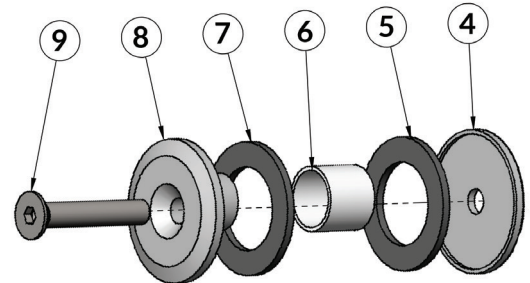

FIG 20.
- Separate parts 4 through 6 (bush) from parts 7 through 9 (hub) (**FIG 20**).
- Use the allen key to engage and screw in the bolt (9, **FIG 20**).
- Make sure the nylon washers are flat against the glass so no metal contacts the glass (**5 & 7, FIG 20**).